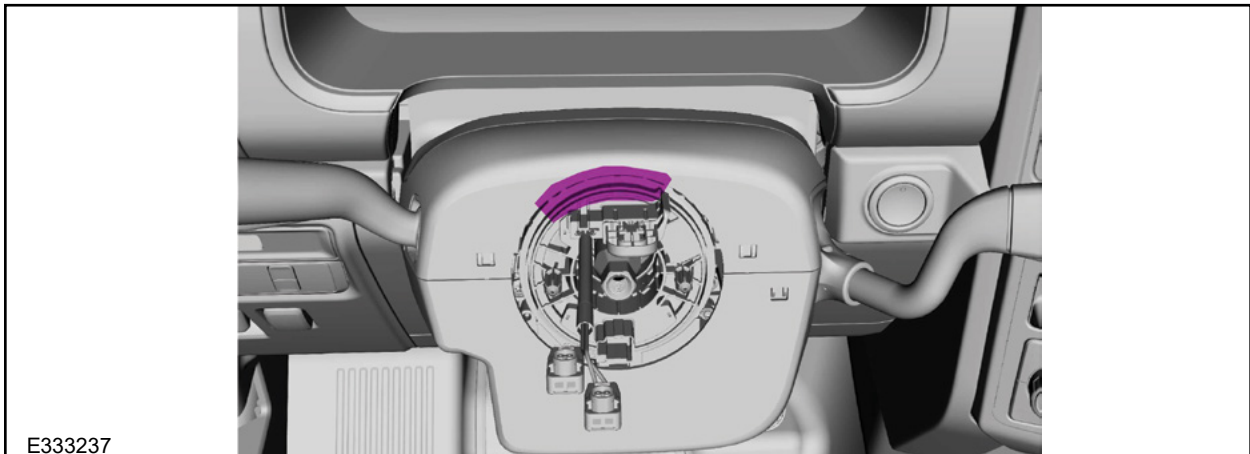

FIGURE 13
4. Tape the clockspring rotor to the outer housing to keep it from rotating. See Figure 13.